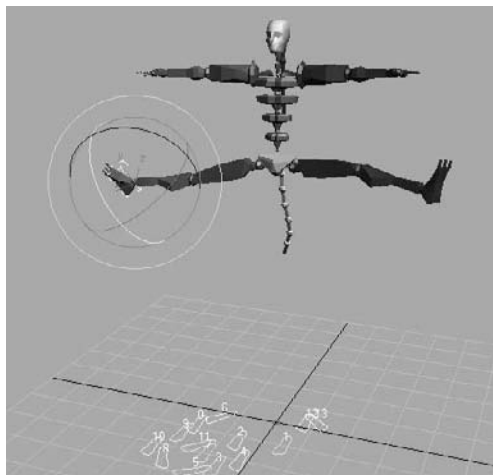

Figure 9.27
- Move the Time slider forward until the biped is at the apex of the jump. Rotate the biped's components into positions you like, such as the split shown in Figure 9.27. Delete any animation keys that may interfere with your desired motion.